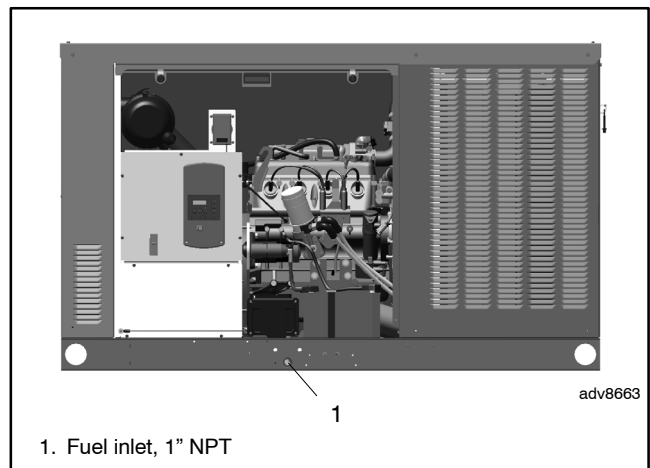

Figure 1-20 Fuel Supply Connection Location
- b. Use a section of flexible fuel line to connect the fuel supply to the 1 in. NPT fuel inlet connection on the generator set. See Figure 1-20 or the dimension drawings in Section 4 for the fuel inlet connection location.